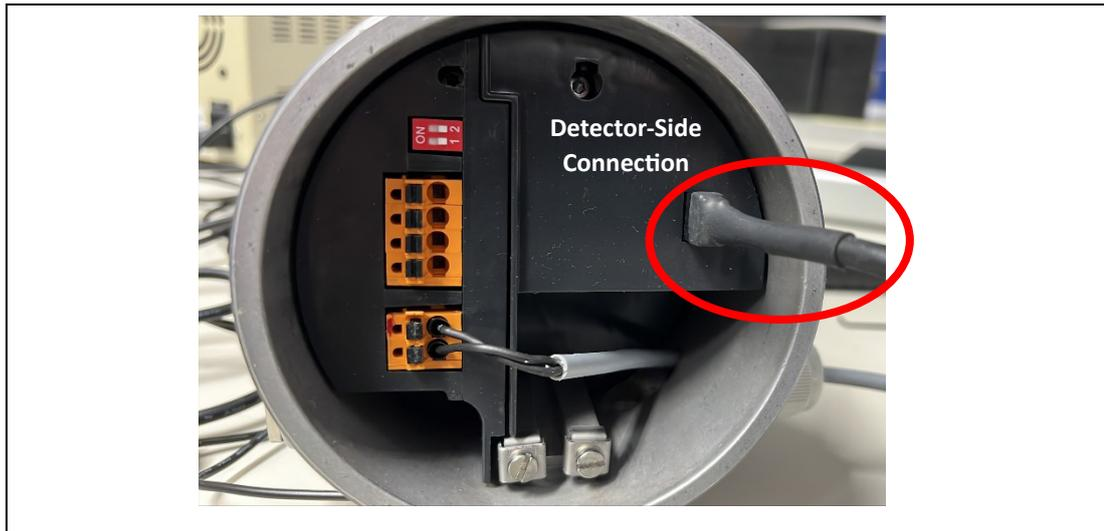

Figure 2 Service Modem connection at the detector.
1. Connect the cable leading to the detector to the service interface, as shown in Fig. 2.